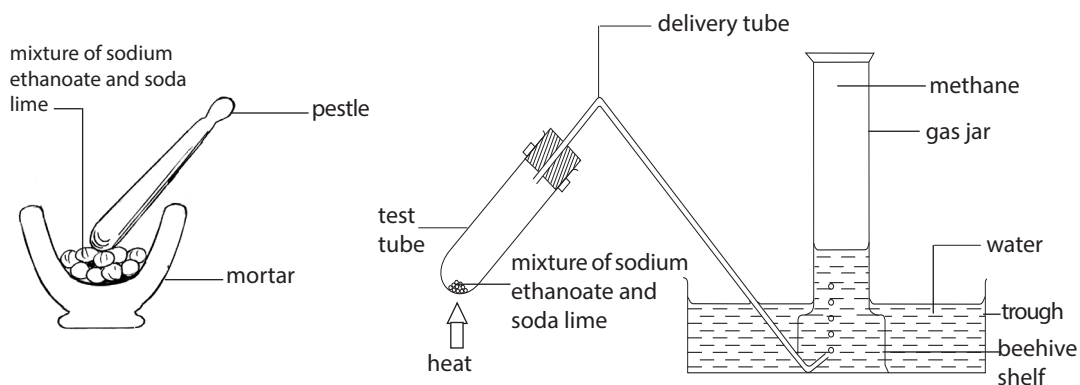

Fig.6.2: Preparation of methane
4. Set up apparatus as in Fig. 6.2